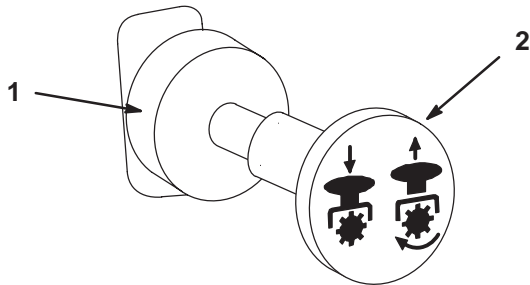

Figure 14
3. Pull out on the power take off (PTO) switch to engage (Fig. 14).
To disengage, push the PTO switch to the off position (Fig. 14).